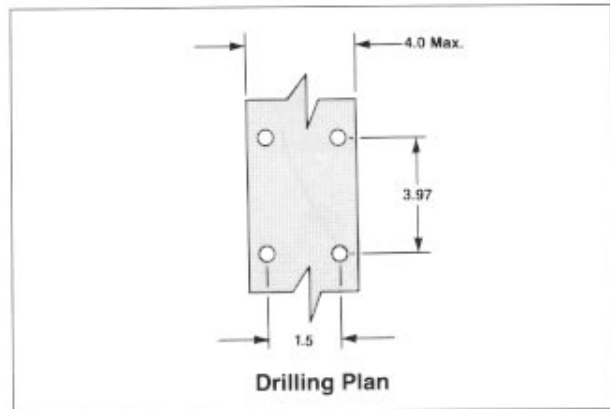

Figure 1
- Drill or punch four 0.313 in. diameter holes in the hole pattern (Figure 1).